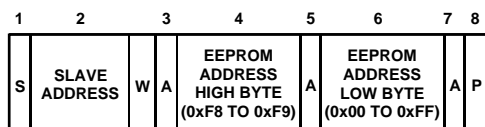

Figure 31. Setting an EEPROM Address
- To set up a 2-byte EEPROM address for a subsequent read, write, block read, block write, or page erase. In this case, the command byte is the high byte of the EEPROM address from 0xF8 to 0xF9. The (only) data byte is the low byte of the EEPROM address. This is illustrated in Figure 31.